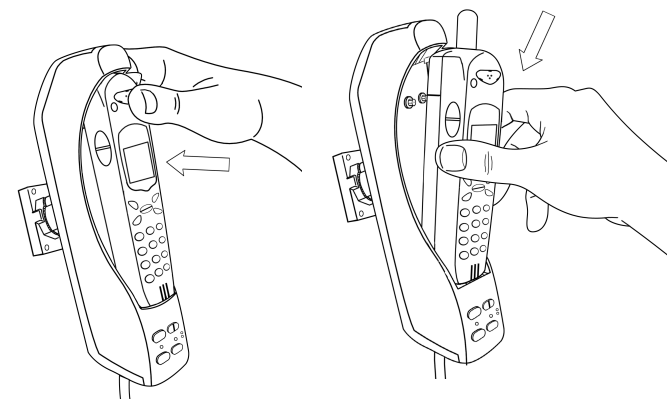

FIGURE 11 Pushing Thuraya phone Toward the Holder
- Firmly insert the bottom of the Thuraya phone into the bottom of the VDA Holder as shown in Figure 11.